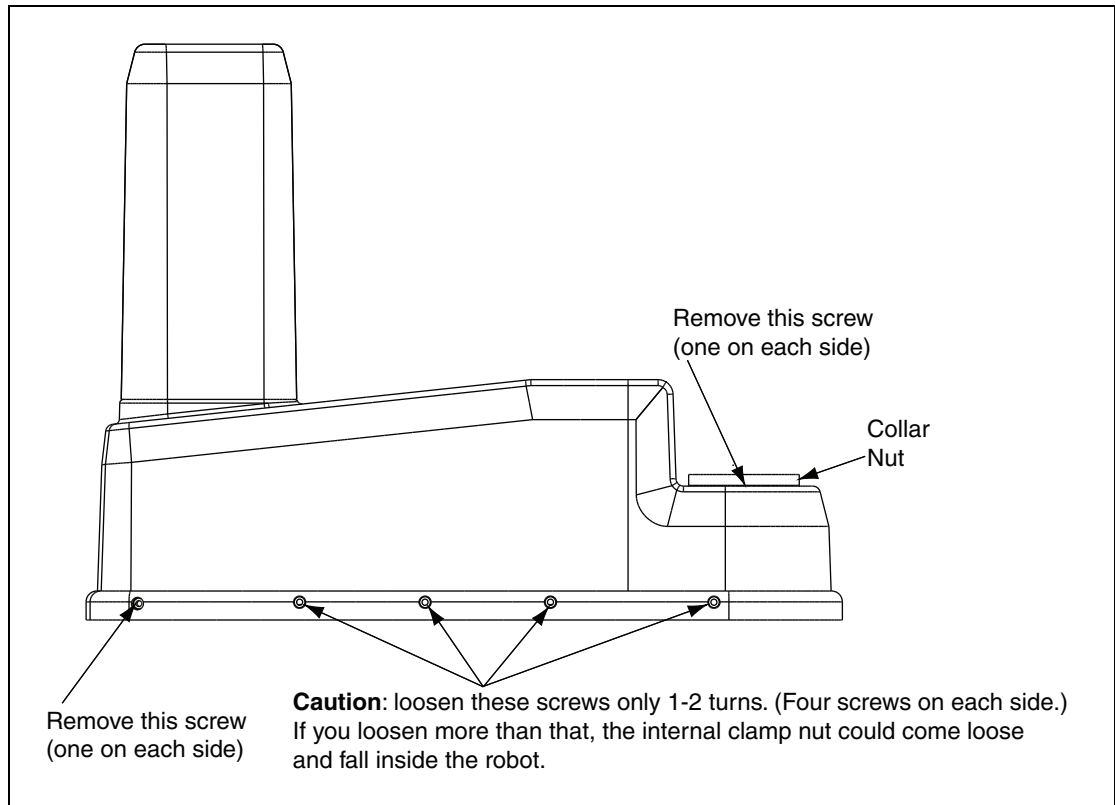

Figure 9-8. Cover Removal Instructions
4. Unscrew the collar nut on the top of the outer link. See Figure 9-8.
7. For the 8 screws along the side of the cover (4 on each side; see Figure 9-8.), loosen only 1 to 2 turns, just enough to loosen the inside clamp nuts. You do not want to completely remove the screws. See the label on the side of the outer link cover.